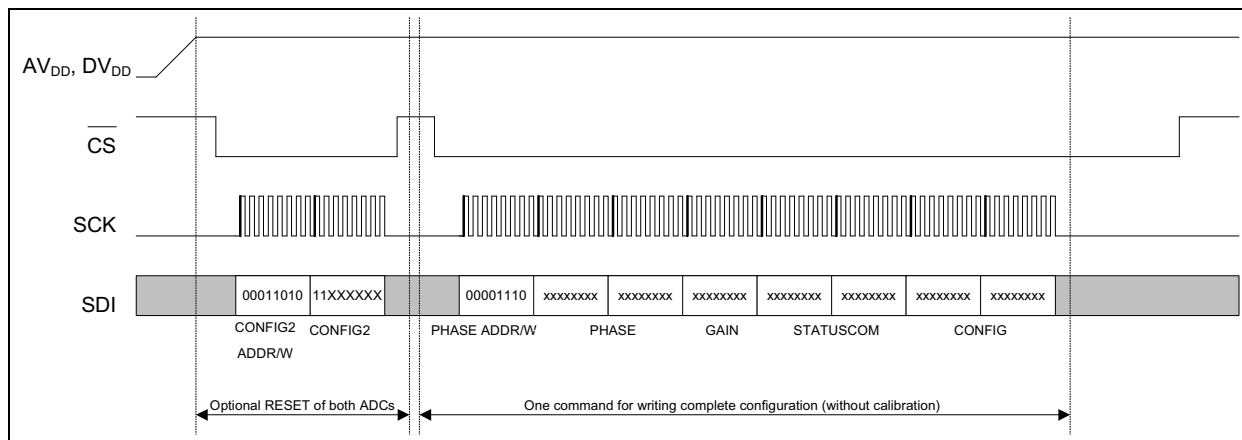

FIGURE 6-8: Recommended Configuration Sequence at Power-up.
- Write all Configuration registers in one communication (see Figure 6-8)
It is recommended to enter into ADC Reset mode for both ADCs, just after power-up. It is because the desired MCP3911 register configuration may not be the default one. In this case, the ADC outputs undesired data. Within the ADC Reset mode (RESET<1:0> = 11), the user can configure the whole part with a single communication. The write commands automatically increment the address so that the user can start writing the PHASE register and finish with the CONFIG register in only one communication (see Figure 6-8). The RESET<1:0> bits are in the last byte of the CONFIG register to allow exiting the Soft Reset mode, and have the whole part configured and ready to run in only one command.